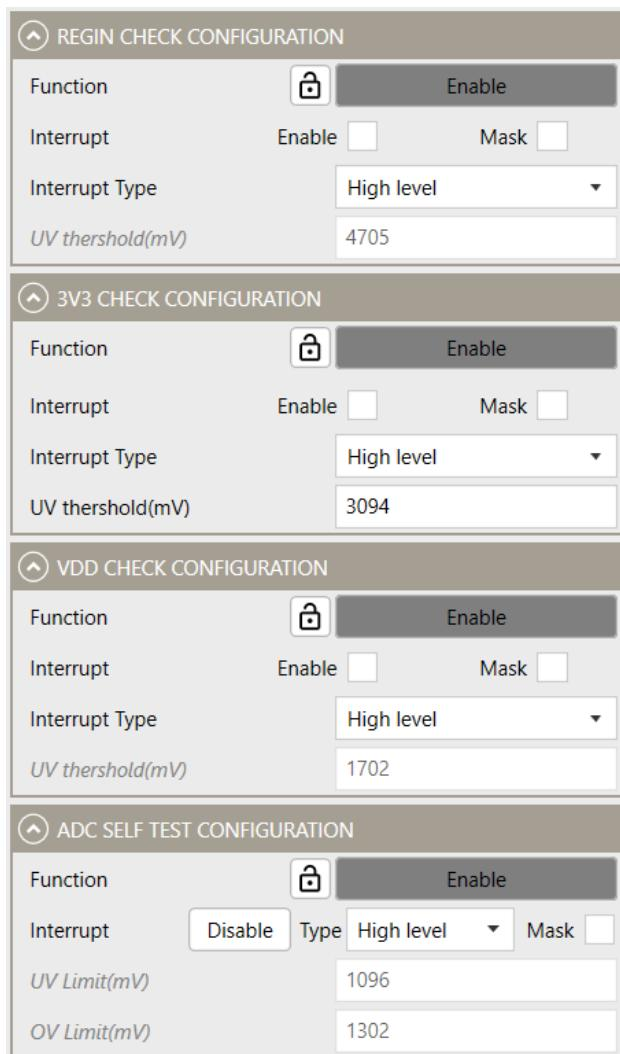

Figure 28: REGIN, 3V3, VDD, and ADC Self-Test Check Configuration
23. Figure 28 shows how to configure the REGIN, 3V3, VDD, and ADC self-test check.